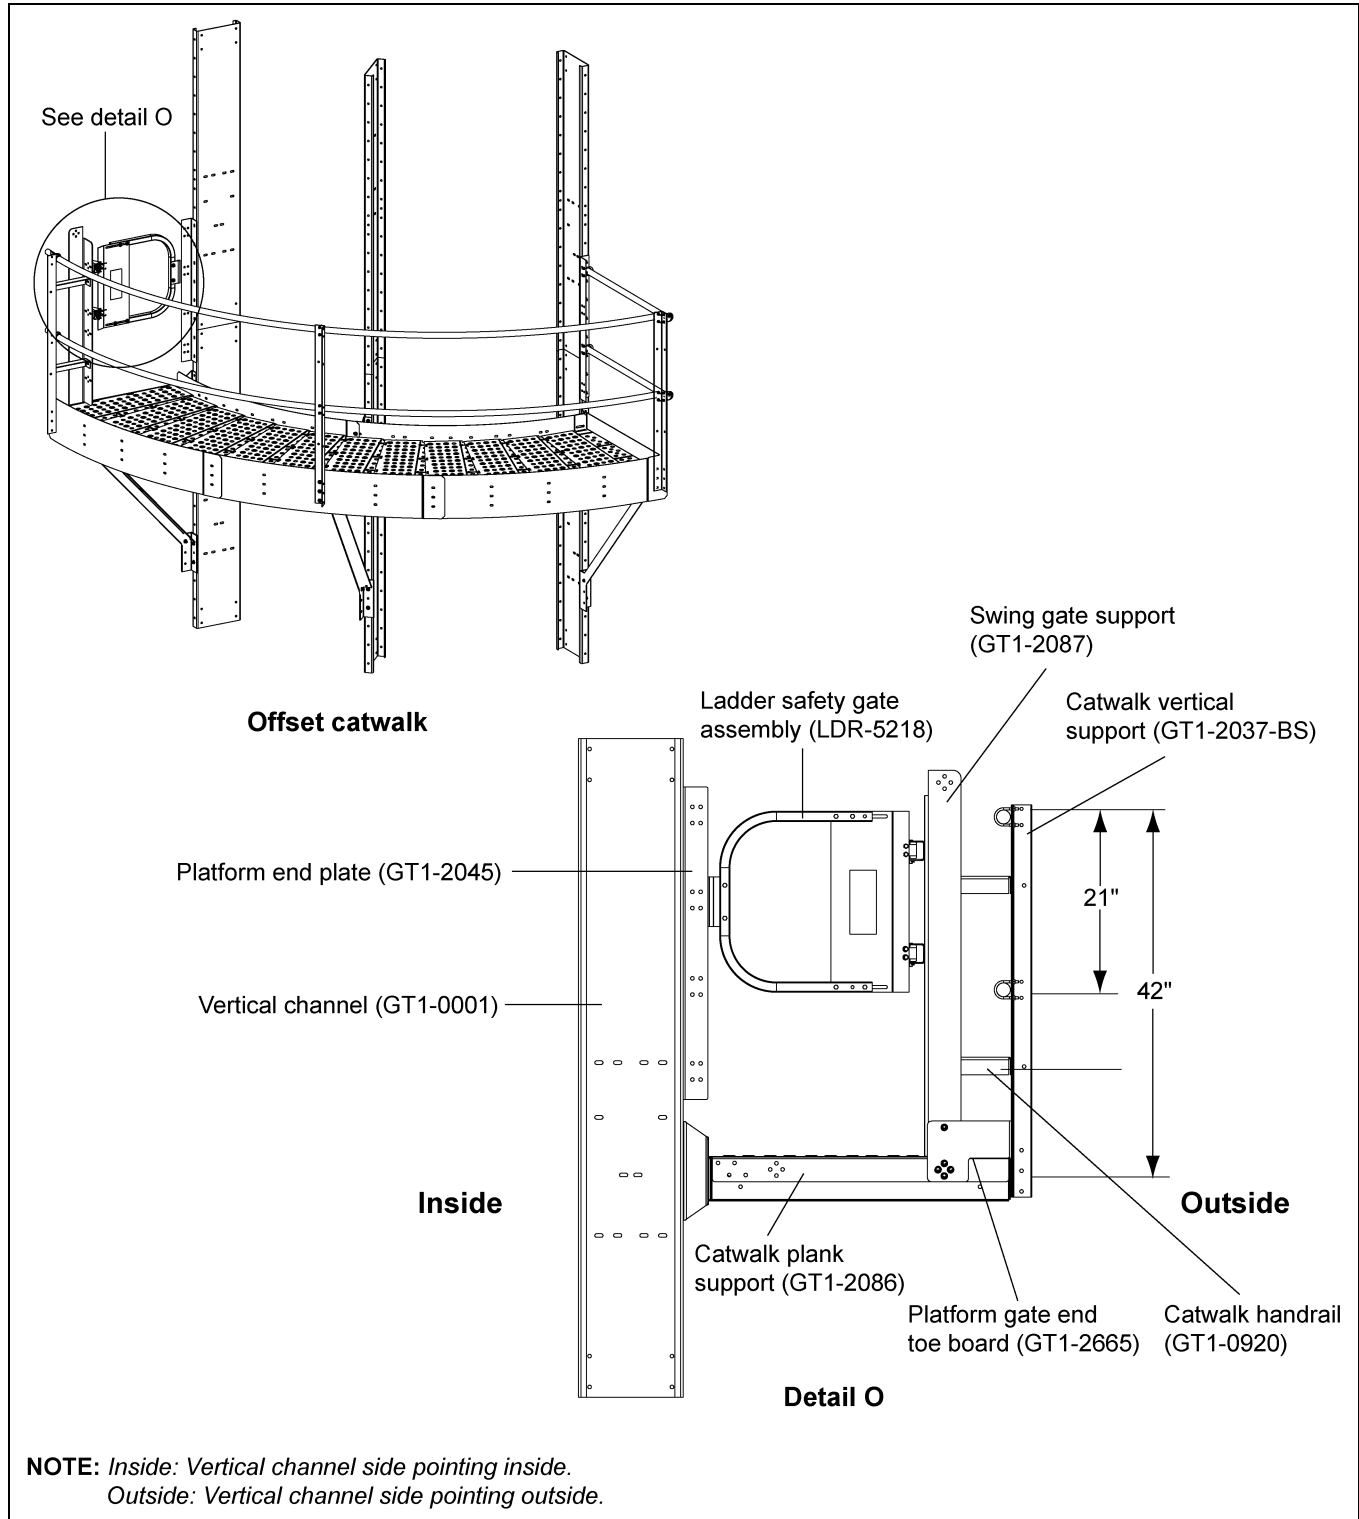
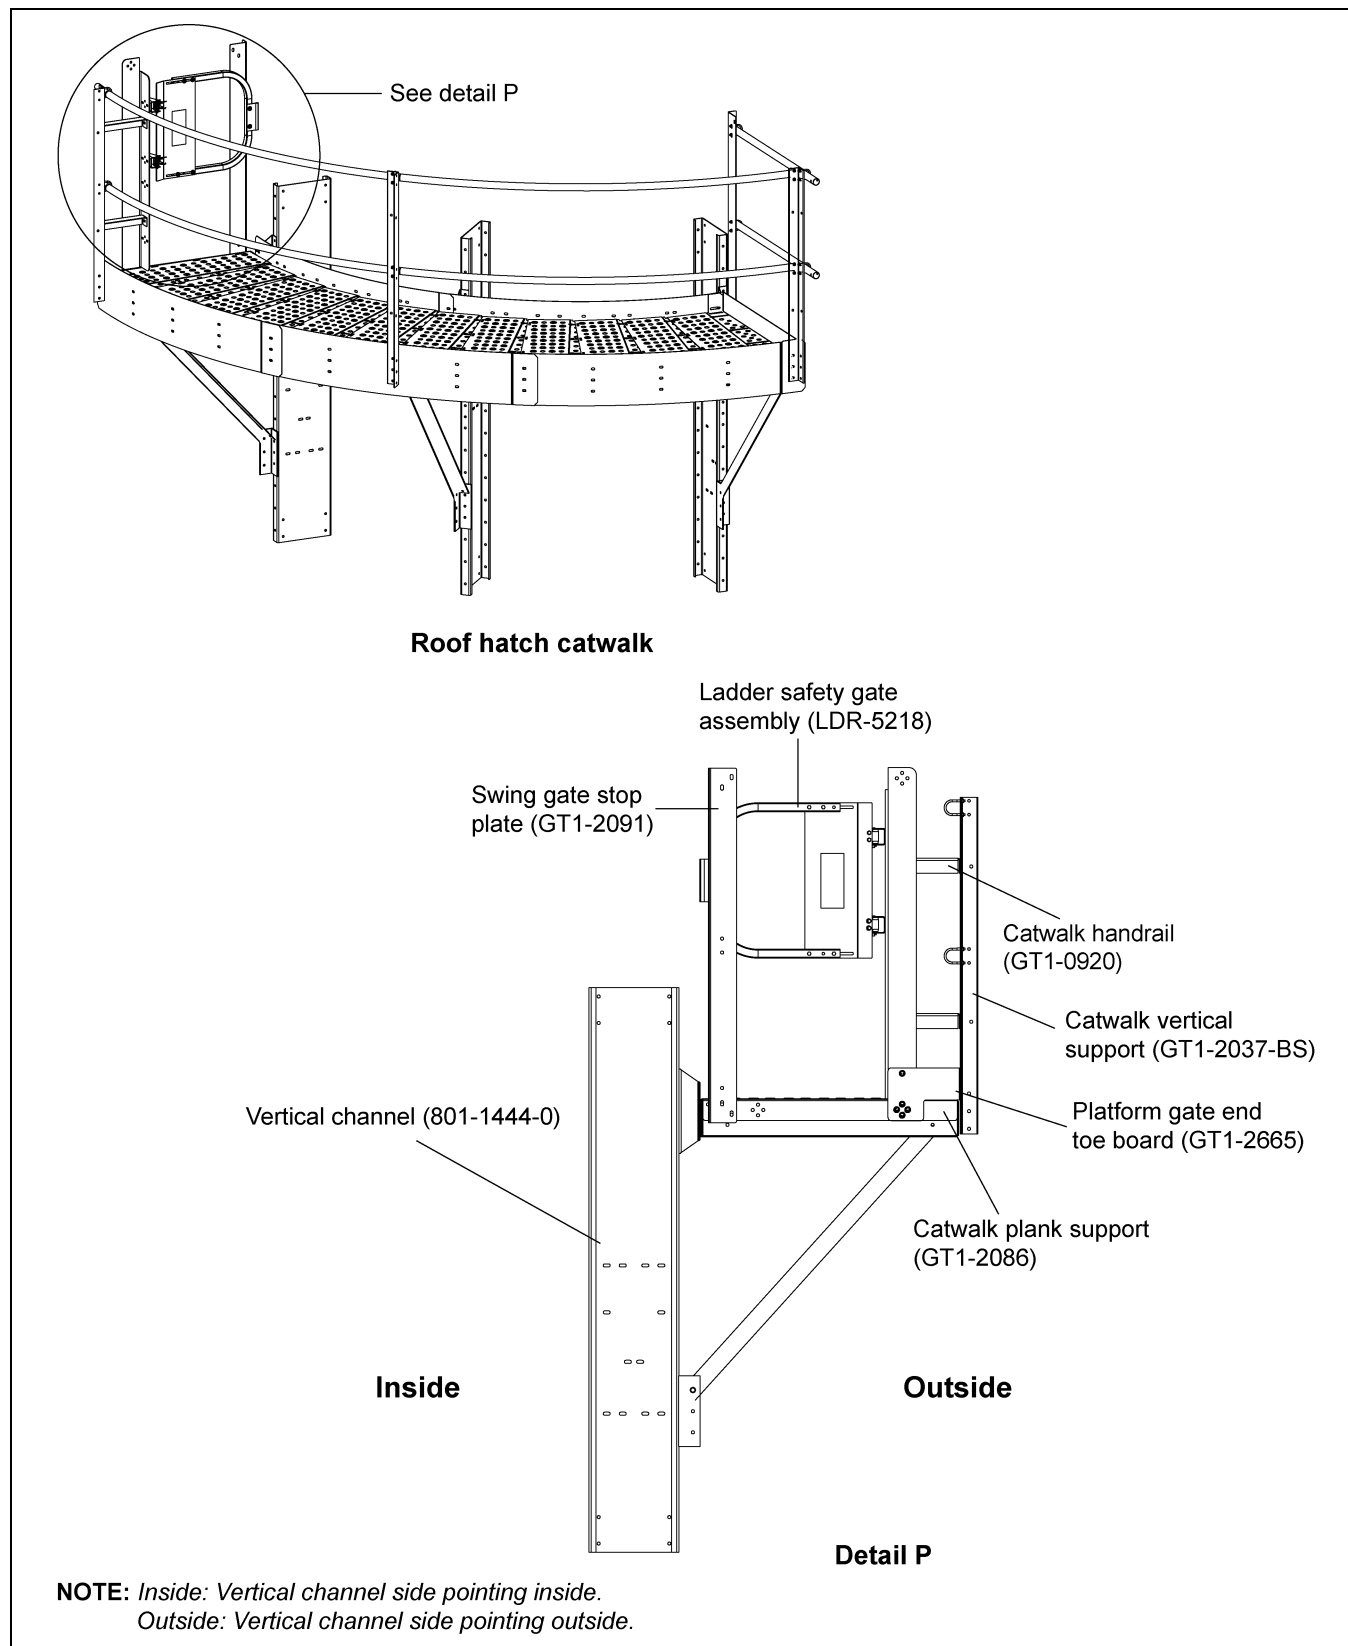

Figure 6Y Offset Ladder Safety Gate Assembly to Swing Gate Support (GT1-2087)
Figure 6Z Roof Hatch Ladder Safety Gate Assembly to Swing Gate Stop Plate (GT1-2091)
1. Install the ladder safety gate assembly (LDR-5218) to the swing gate support (GT1-2087) using 3/8"-16 x 1" JS grade 8 or grade 8.2 bolts (S-7485) and 3/8"-16 ZN grade 5 nuts (S-968). The distance between the plank and handrail is 42". (See Figure 6Y below and Figure 6Z on Page 66.)